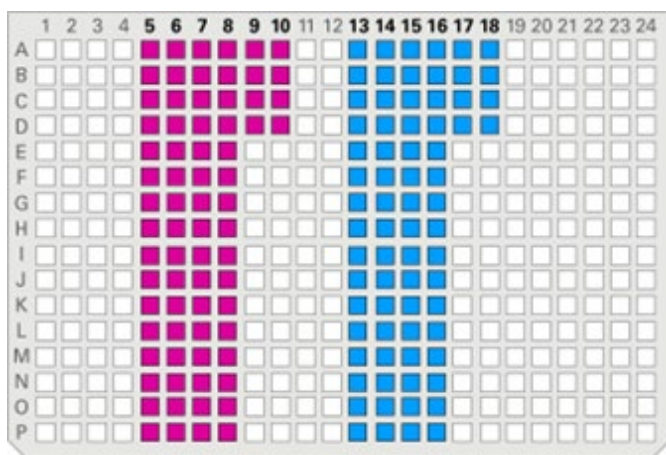

Figure 5. Rehydration buffer-dispense pattern for the Shasta Long Indexing Primer Set - A plate.
8. Use a multichannel pipette to add 50 µl of rehydration buffer into each well as shown in the 384-well plate layout in Figure 5 (72 pink wells + 72 blue wells = 144 total wells).